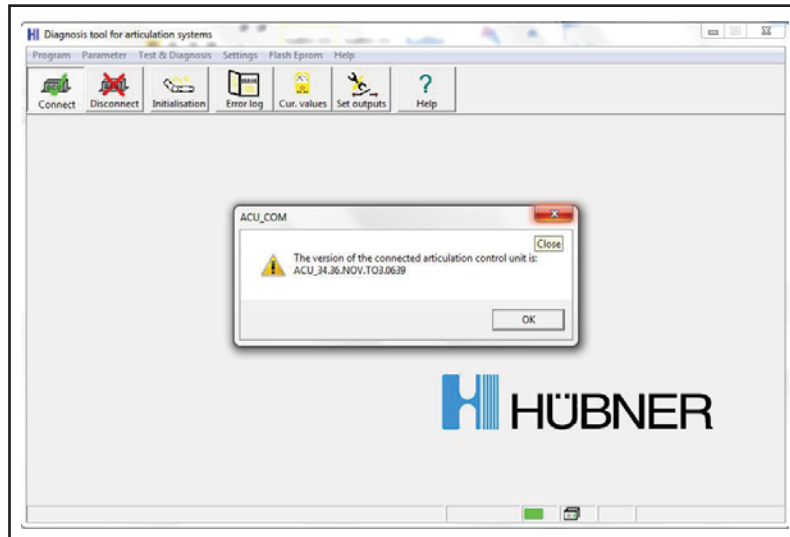

Figure 6 - Typical Window Identifying the already Installed ACU Software
- 1.8. A pop-up window will appear to identify the already installed ACU software. See Figure 6. Click OK.